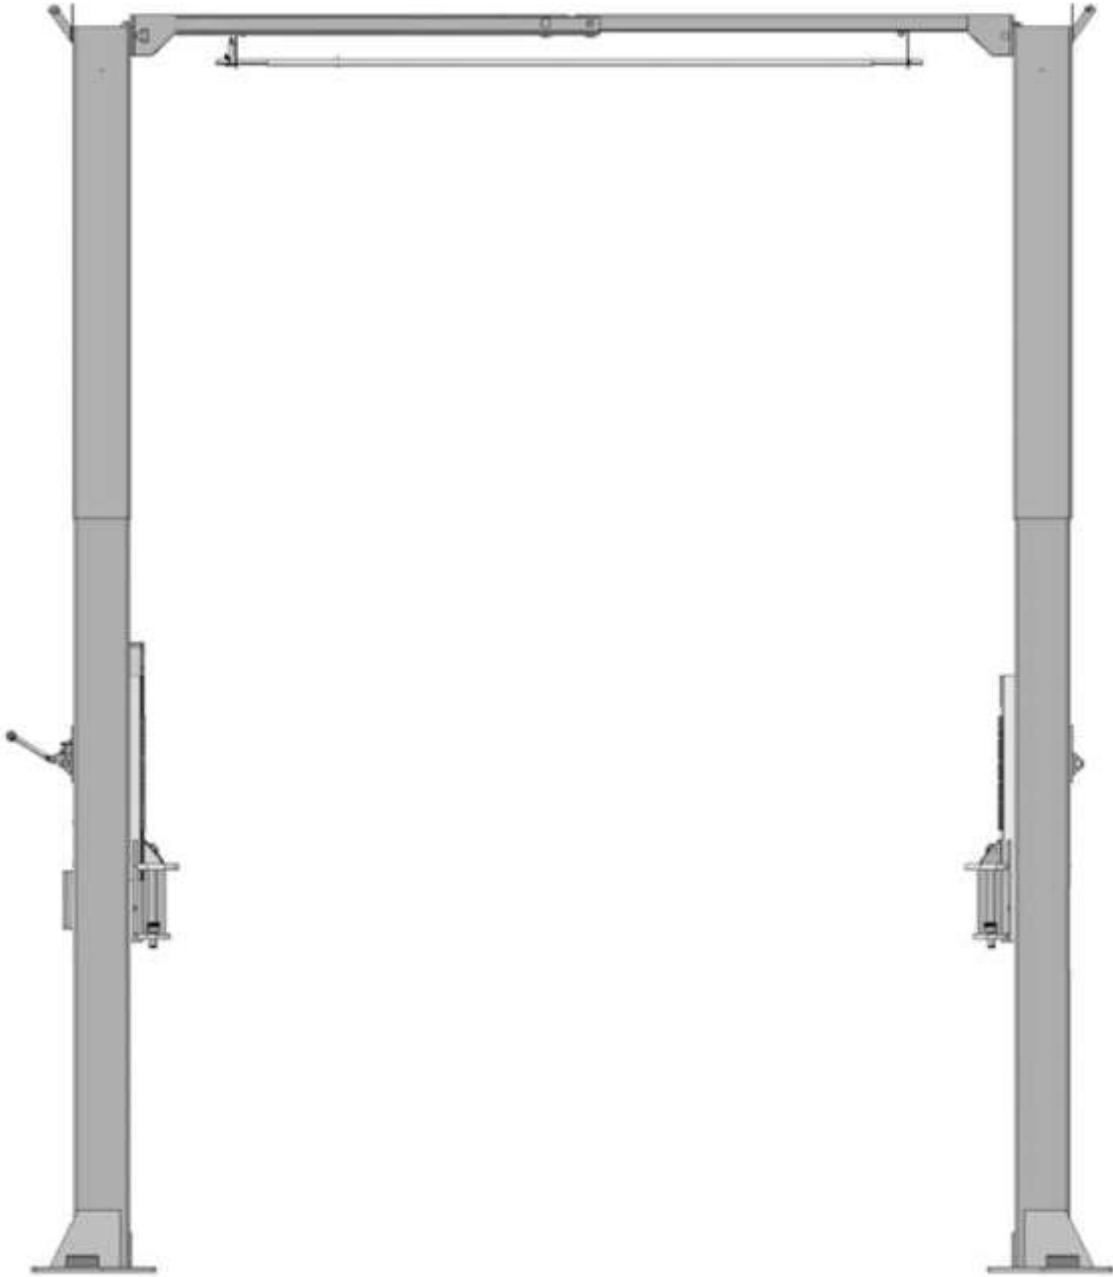

Fig. 22
J. Lift the carriages up by hand and make them be locked at the same level (**See Fig. 22**).